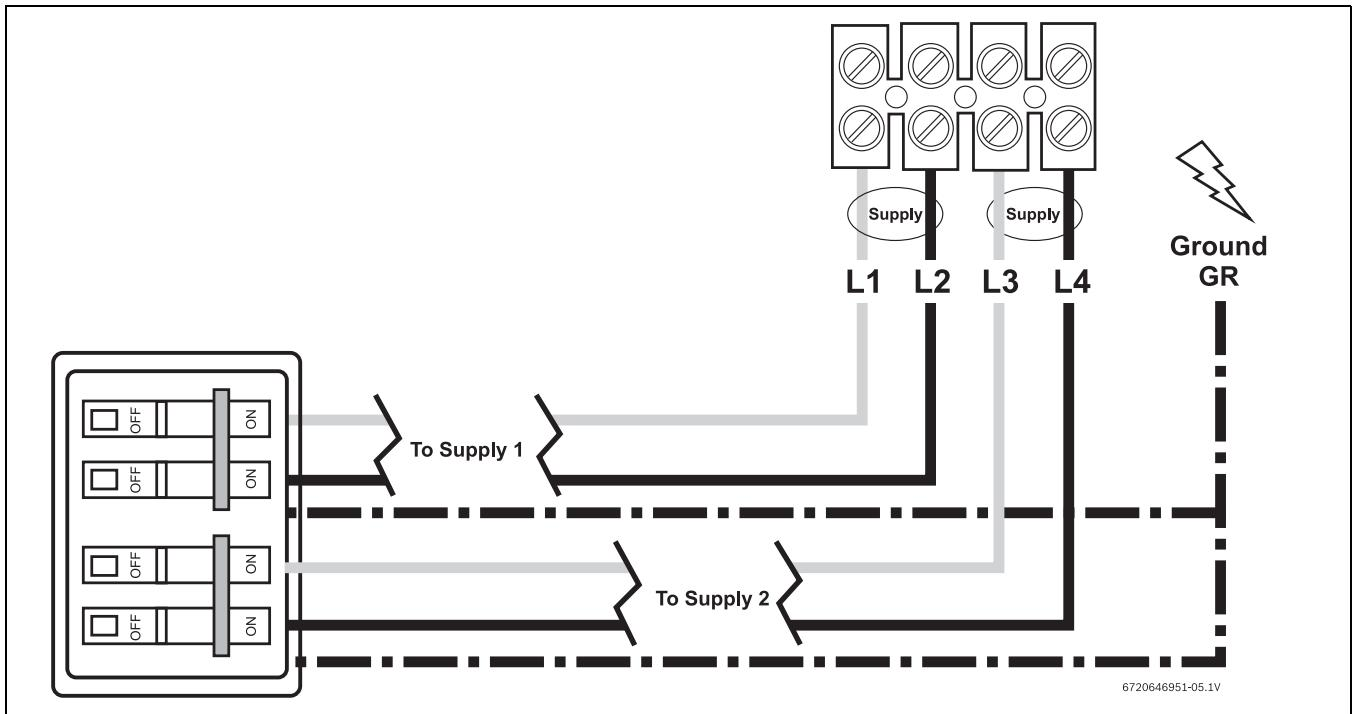

Fig. 7 AE115 terminal block connection (U.S.A. only)
- Strip back the insulation on the power wires about ½ inch. Connect the live wires to the terminals marked "L1" and "L2." There are two pairs of live wires in the AE115 and three pairs of live wires in the AE125. (See Fig. 7 and Fig. 8, page 15).
- Any insulation on the ground wires should be stripped back about ¾ inch. The ground leads must be connected to the pillar terminal marked "GR". (See Fig. 7 and Fig. 8, page 15).